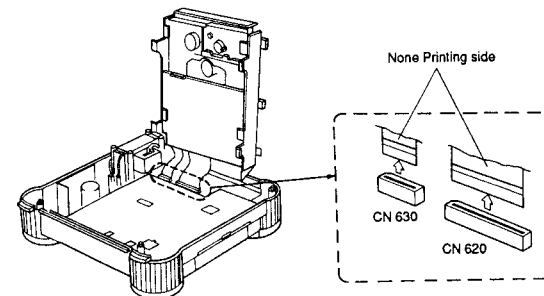

Figure 3
- (2) Gradually raise the front end of the CD-ROM drive and then disconnect the flat cables from two connectors (CN 620, CN 630) as shown in Figure 3.